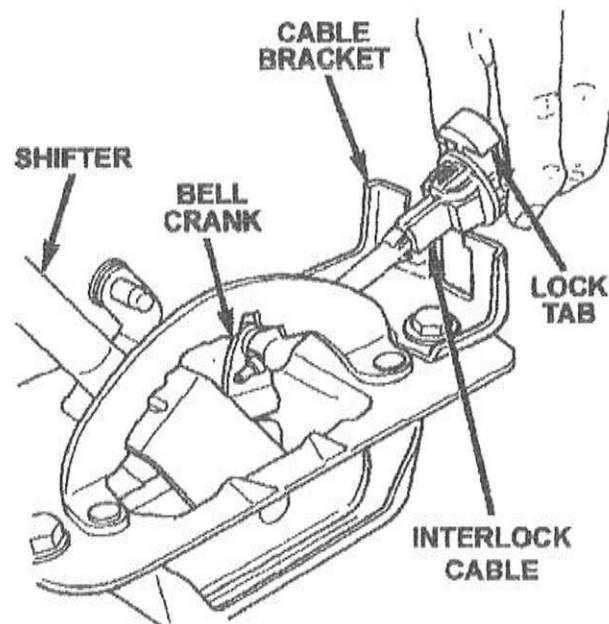

Figure 5
16. Disconnect the ignition interlock cable from the floor shifter bellcrank and shifter bracket (Figure 5).
21. Connect the cable to the floor shifter bracket and shifter (Figure 5).